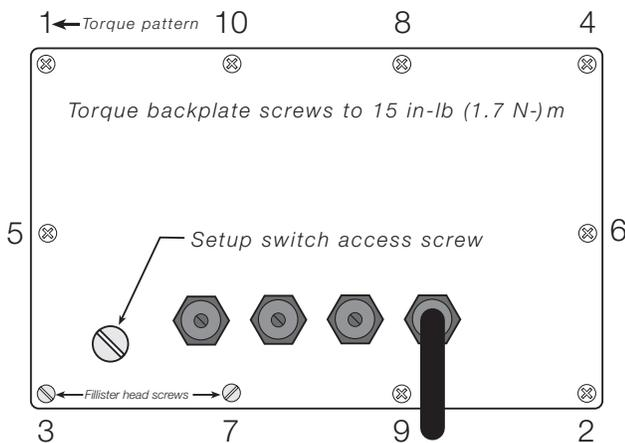

Figure 2-4. IQ plus 355 Enclosure Backplate
- Two 8-32NC x 7/16 fillister head screws (PN 30623). These screws occupy the holes below and on either side of the setup screw on the indicator backplate (see Figure 2-4 on page 8).
Once cabling is complete, position the backplate over the enclosure and reinstall the backplate screws. Use the torque pattern shown in Figure 2-4 to prevent distorting the backplate gasket. Torque screws to 15 in-lb (1.7 N-m).